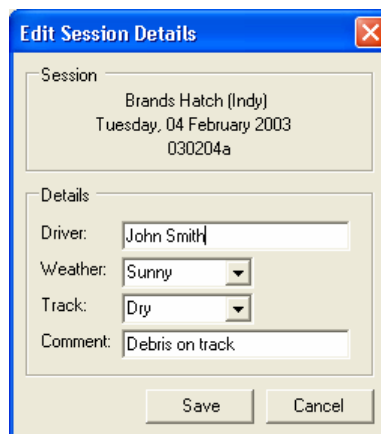

Figure 18 - Edit Session Details Dialog
2. Select **Edit** ➔ **Session Details** from the main menu. The Edit Session Details dialog (Figure 18) appears.